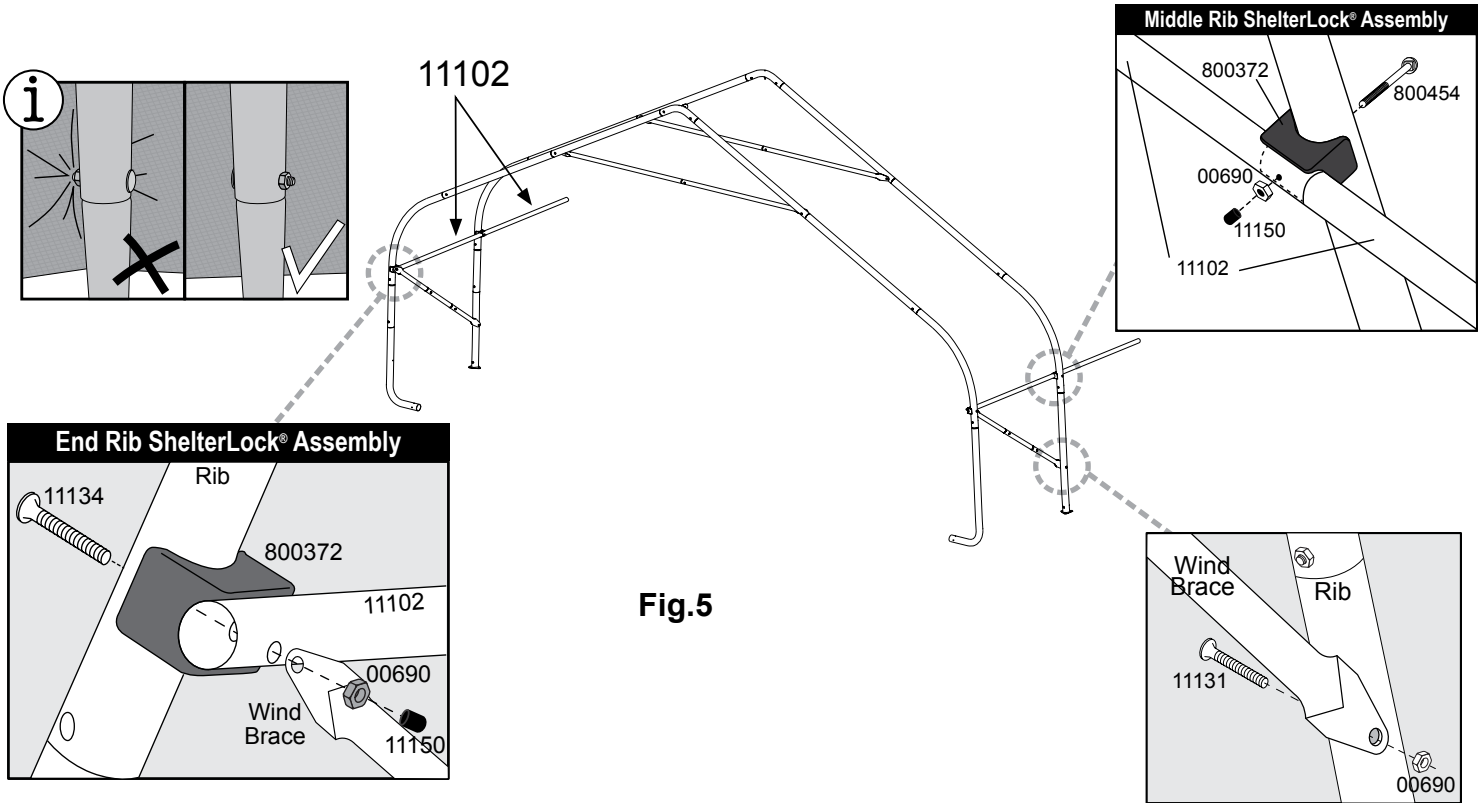

Fig.5
- B. Place the ShelterLock® (800372) on the upright as shown in Fig. 5.